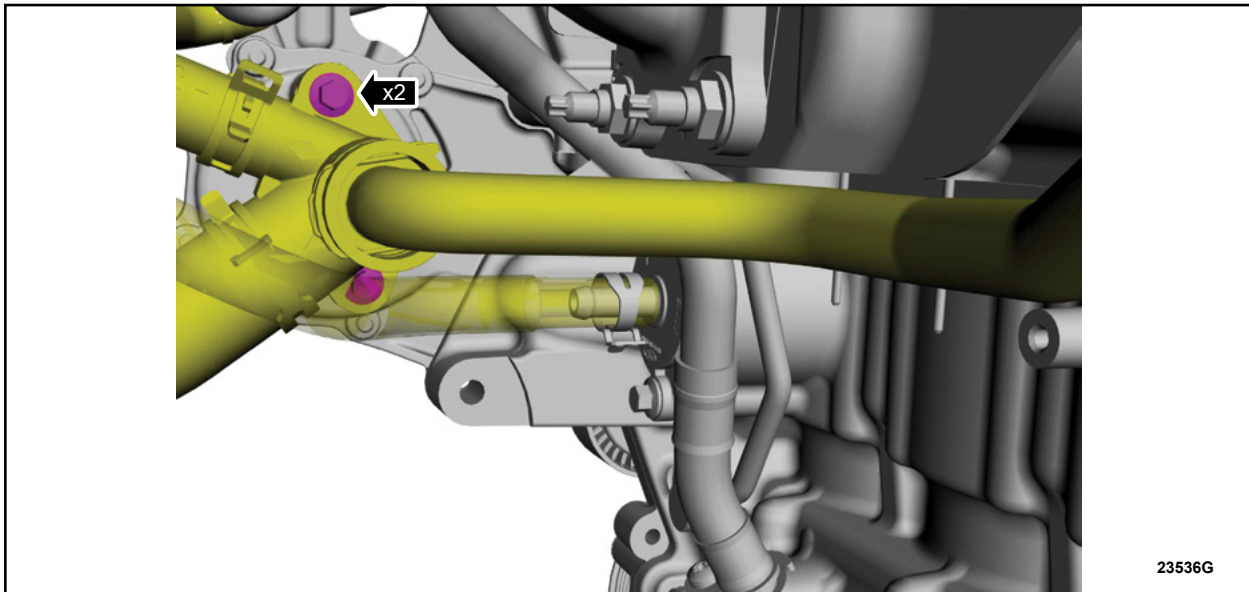

FIGURE 7
13. Remove the bolts and separate the thermostat housing from the engine front cover. See Figure 7.